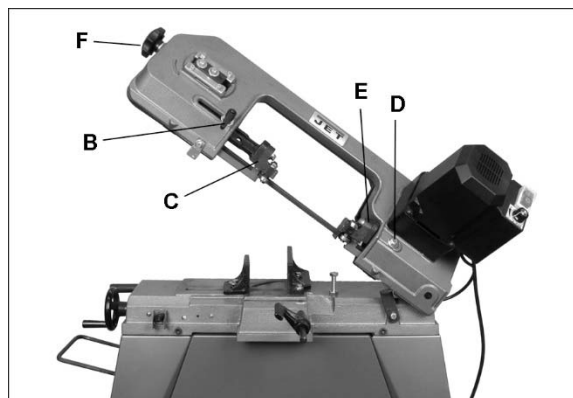

Figure 7-1
2. Loosen handle (B, Figure 7-1) and slide left blade guide assembly (C) as close as possible without interference to material being cut. Tighten handle.
3. Loosen bolt (D) and slide right blade guide assembly (E) as close as possible to cutting area, without interference with bed casting. Tighten bolt. (Once the right blade guide assembly is properly positioned, it can generally remain in that position for all operations.)